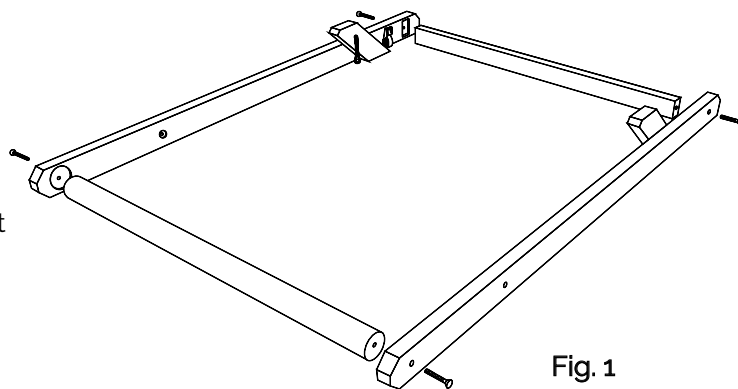

Fig. 1
1. Arrange the **Inner Back Brace A**, **Left Inner Leg F**, **Right Inner Leg G** and **Bottom Pole D** as evenly as you can into a rectangle as shown in **Fig 1**.